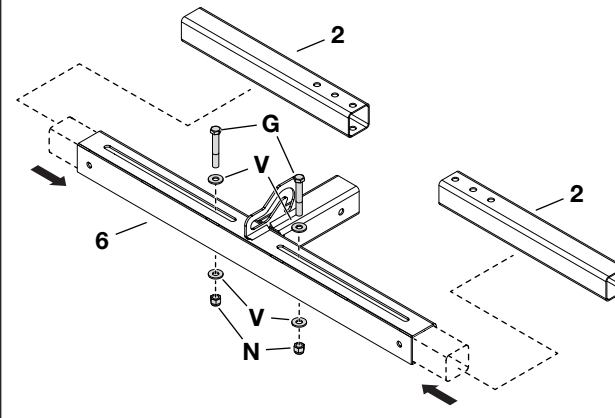

Figure 1
STEP 1: (SEE FIGURE 1)
- Insert a slider tube (2) into each end of the hitch mount assembly (6).
- Attach the slider tube to the hitch mount assembly using two hex bolts (G), four washers (V), and two Nylock hex nuts (N). Do not tighten.